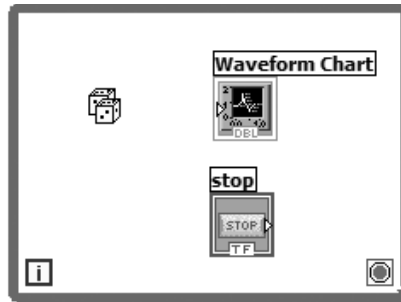

Figure 3.26
8. With the Positioning tool active, arrange your diagram objects so that they look like the block diagram in Figure 3.26.